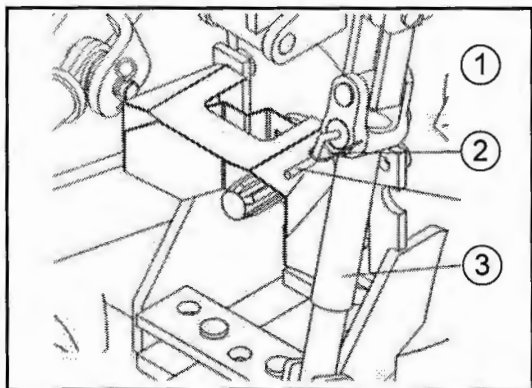

Fig. 24-2 - Right Side Lift Rod
The right side lift rod (1) can be adjusted by using the adjustment handle (2). Remove the locking spring (3) from its locking position and make the desired adjustment. Once the adjustment is correct, lock the spring back in its locking position. (See Fig. 24-2).